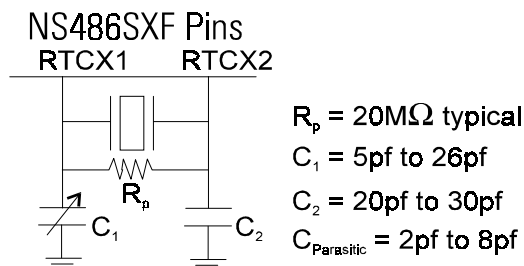

Figure 3-28 Oscillator External Circuitry
Figure 3-28 represents the external circuitry that is required for the NS486SXF RTC oscillator. The oscillator input may be driven from an external source. If this is desired, the input should be driven rail to rail and be approximately a 50% duty cycle. The oscillator output should be open in this case. The external capacitor values should be chosen to provide the manufacturer’s specified load capacitance for the crystal when combined with the parasitic capacitance of the trace, socket, and package, which can vary from 2 to 8 pF. The rule of thumb in choosing these capacitors is:
4) The parasitic resistance of the board combined with the parallel resistance (shown in Figure 3-28) should equal 20 M Ohm. This value is critical for the proper operation of the oscillator circuitry.